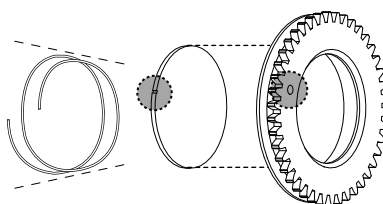

Figure 21: Mounting gobo in holder
2. Insert the new gobo into the gobo holder with **the coated side towards the light source** (coated side towards gobo holder) while aligning both index marks (figure 21) of the gobo and the gobo holder.
3. Insert the conical spring, with the narrow end against the gobo (figure 21 and 18) by pushing its end under the lip of the gobo holder. Check that the gobo is secured in place.